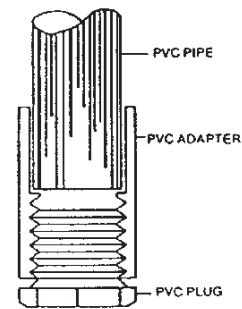
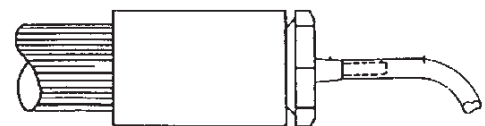

Fig. 17
Fig. 18
9. At one end of the system, screw the PVC plug into the adapter and hand tighten (see Fig. 17). At the other end, screw the PVC plug with the bleed-off fitting into the adapter and hand tighten (see Fig. 18). The plug with the bleed-off fitting should be installed in one end near a drain.